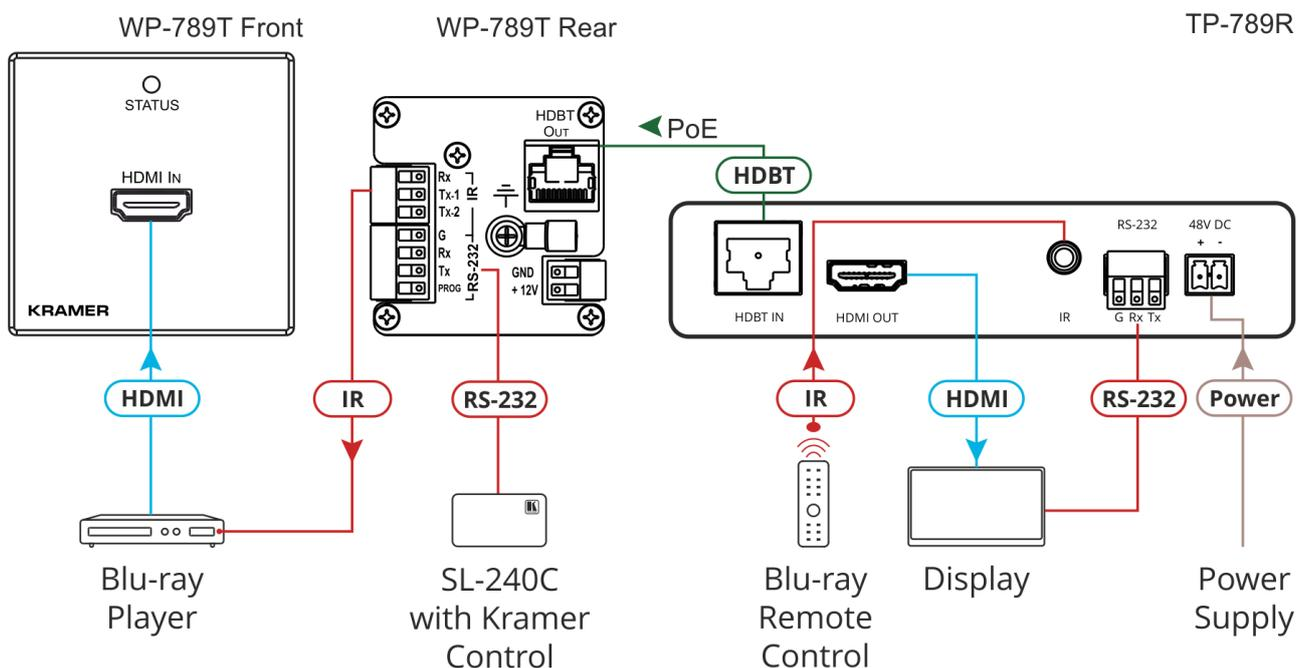

Figure 4: Connecting WP-789T to TP-789R
To connect WP-789T, TP-789R, TP-789Rxr as illustrated in the example in (Figure 4):
1. Connect the HDMI IN Connector (1) on the WP-789T front panel to the HDMI source (for example, a Blu-ray player).
2. Connect the IR Terminal Block Connector (4) on the WP-789T rear panel to the HDMI source via an IR emitter cable.
3. Connect the HDMI OUT Connector (8) on the TP-789R/TP-789Rxr rear panel to the HDMI acceptor (for example, a display).
4. Connect RS-232 Terminal Block Connector (11) on the TP-789R/TP-789Rxr rear panel to the HDMI acceptor.
5. Connect an IR sensor cable to the IR 3.5mm Mini Jack Connector (10) on the TP-789R/TP-789Rxr rear panel.
6. Connect an RS-232 controller (for example, SL-240C) to the RS-232 Terminal Block Connector (3) on the WP-789T rear panel.
7. Connect the HDBT OUT RJ-45 Connector (6) on the WP-789T rear panel to the HDBT IN RJ-45 Connector (7) on the TP-789R/TP-789Rxr rear panel.
8. Connect the power adapter to the 48V DC Power Terminal Block (12) on TP-789R/TP-789Rxr rear panel (not shown in Figure 4) and to the mains electricity.